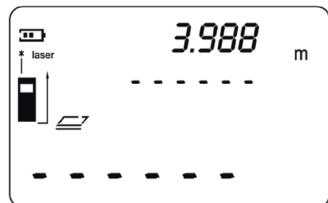

Fig. 9
4. Press the Read button to display the measured length on the first line of the screen. (fig. 9).